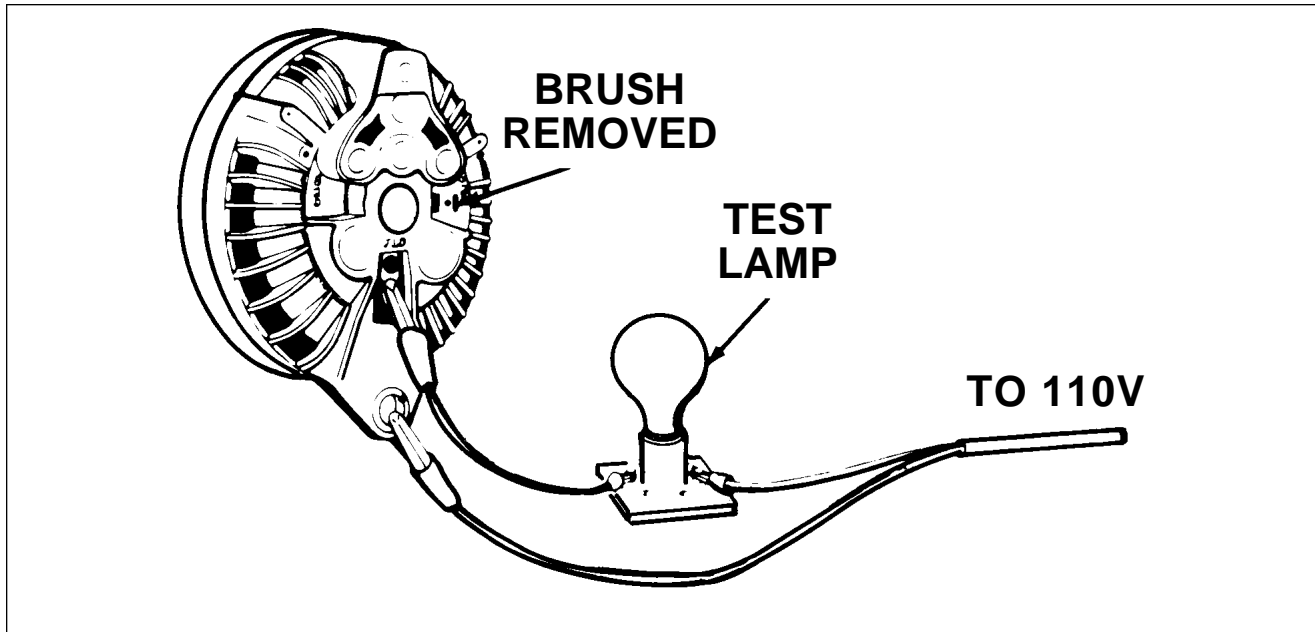

Figure 11-18. Testing Chrysler Alternator Field Current
- a. Remove ground brush and place one test probe of 110-volt test lamp to field terminal. Attach remaining test probe to machined surface at one of the alternator end shields. Test lamp should not light. (Refer to Figure 11-18.)